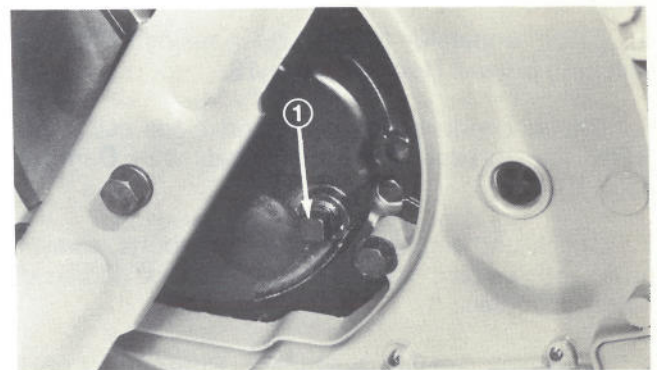

Figure 39
3. Tip mower on its left side, remove drain plug (Fig. 39) from bottom of engine, tip mower down over drain pan and allow oil to drain into pan.
3. Tip mower on its left side, remove drain plug from bottom of engine, lower mower into drain pan and allow oil to flow into drain pan (Fig. 39). After all oil is drained, install drain plug but do not fill crankcase with oil until steps 4 through 9 are completed.